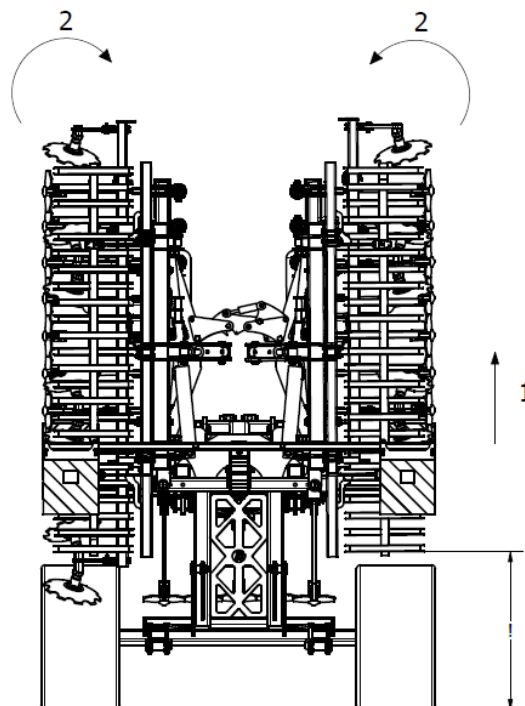

Fig. 13 Implement opening sequence: 1- raise the implement up to the maximum, 2- fold the side extensions into the “closed” position.
1. First, properly lower the chassis and raise the machine as much as possible to allow the machine to be folded properly avoiding the risk of the folding arms snagging on the ground during movement (Fig. 13).
2. Next, fold the implement side extensions hydraulically into the “closed” position to ensure that the side extension lock mechanism will unlock and allow the implement arms to be opened at a later stage. This operation is necessary each time the arms are opened (Fig. 13).